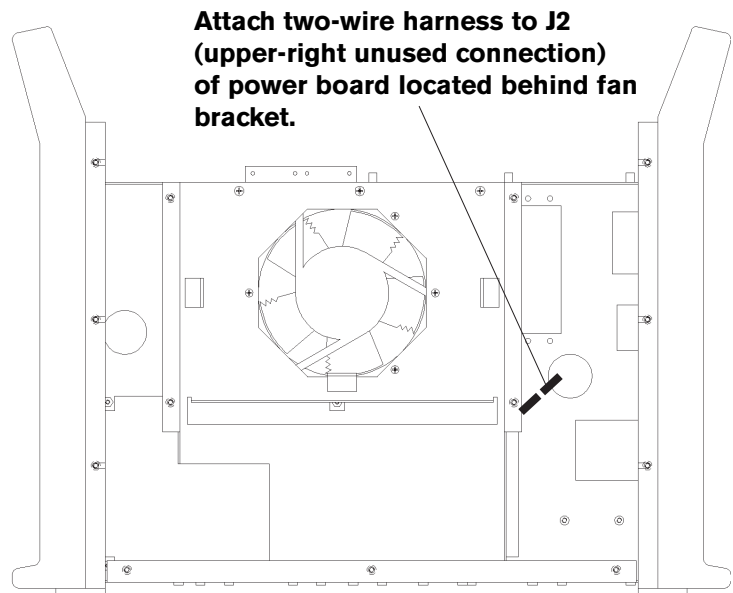

Figure 5 - Attach Harness to J2 of Power Board
9. Attach the two-wire harness to J2 of the power board. J2 is the unused connection located on the upper-right corner of the power board. (Power board connection is hidden from view in Fig. 5.)